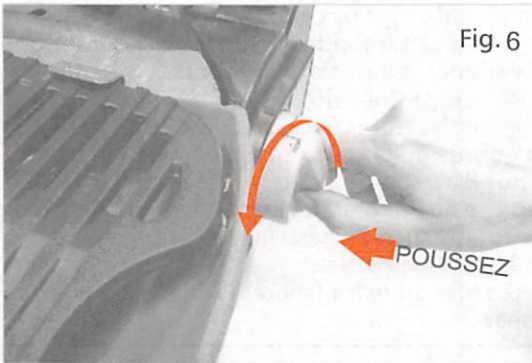

Fig. 6
- 3) Push burner control knob down and turn to **HI / START** (⚡) (Fig.6)